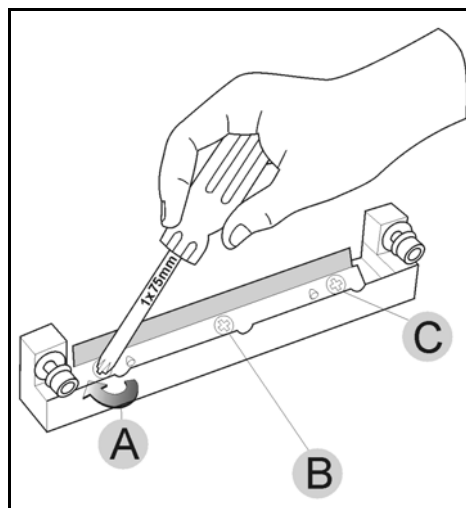

Figure 6-45: Tightening the roller scraper screws
- Tighten the screws in the order shown in figure 6-45.